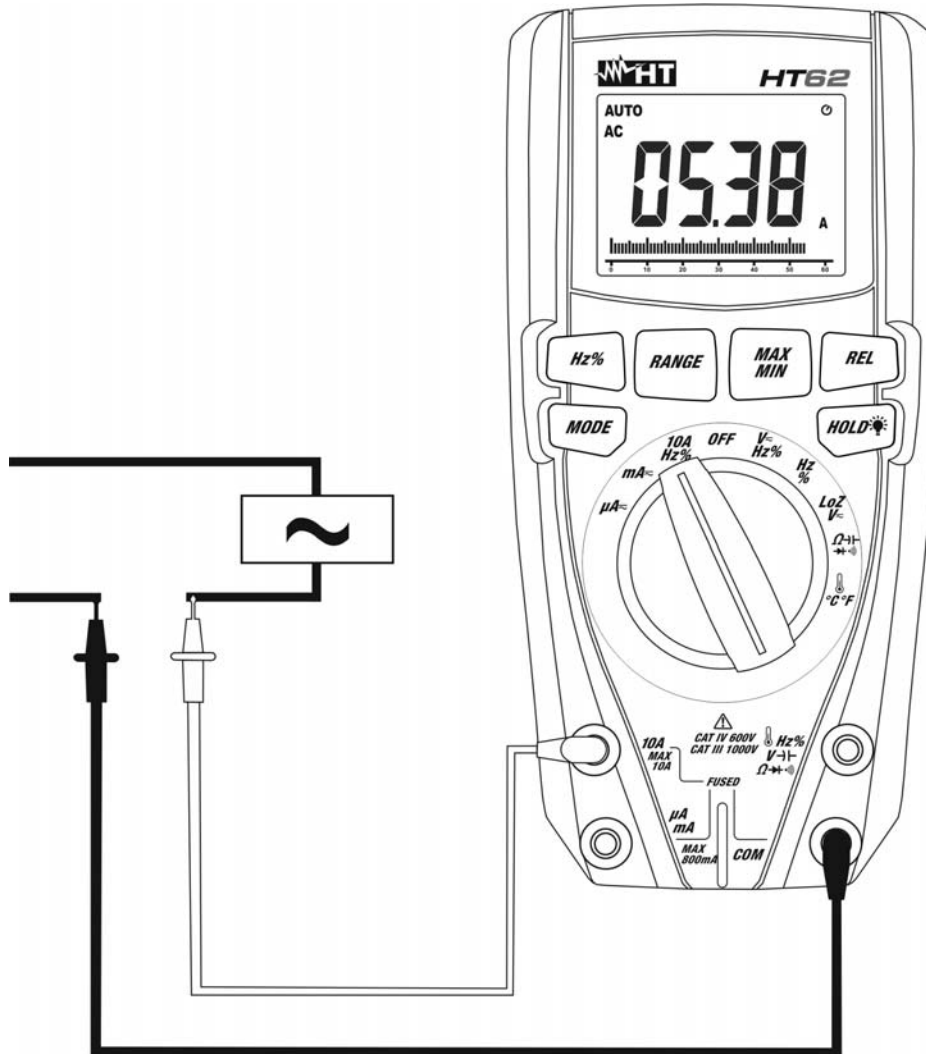

Fig. 11: Use of the instrument for AC current measurement
5. Connect the red lead and the black lead in series to the circuit whose current you want to measure, respecting polarity and current direction (see Fig. 11).